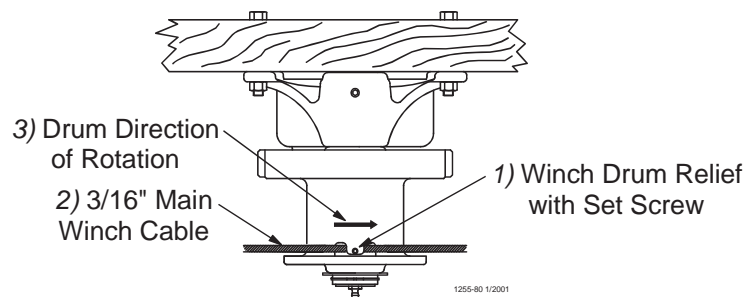

Figure 11. Attaching the Cable to the Power Winch
4. Route the cable through the Winch Drum Relief located near the bottom of the drum. Tighten the set screw to anchor the cable to the drum. **See Figure 11.**